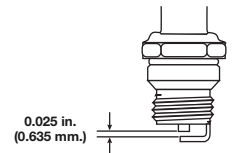

Fig. 38
The recommended clearance for both intake and exhaust is .003 – .006 in. (.076 – 0.152 mm). Use a standard automotive .005 in. (0.127 mm) feeler gauge. The feeler gauge should slide between the rocker arm and valve stem with a slight amount of resistance, without binding. Figure 38 and 39 show how to measure the clearance.
3. Replace cracked, fouled or dirty spark plug. Set the air gap at **0.025 in. (0.635 mm.)** using a feeler gauge (Fig. 38).